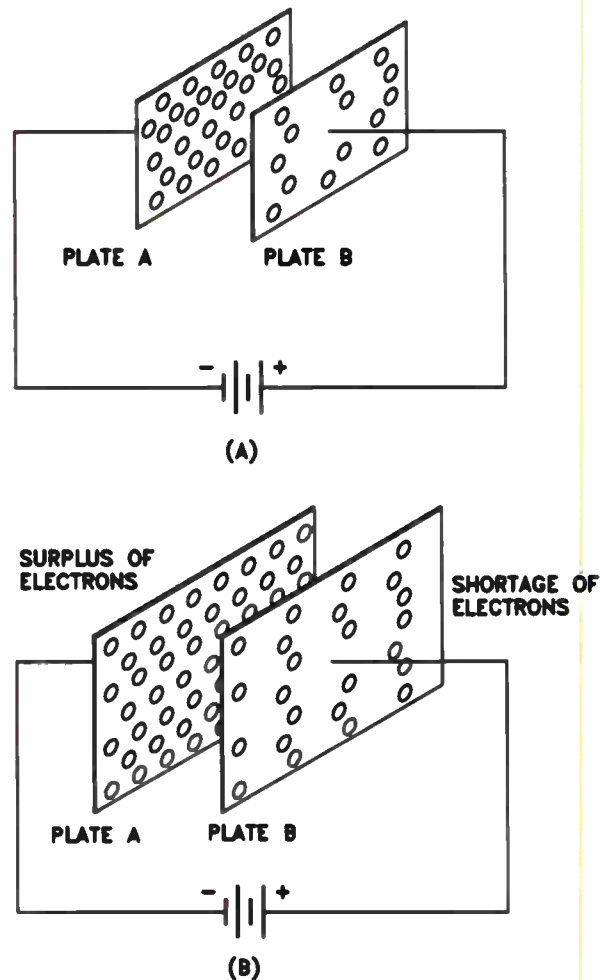

Figure 3. (A) The smaller capacitor. (B) The larger capacitor can store a greater charge.
In Fig. 3, two capacitors are shown. In Fig. 3(B), the capacitor has larger plates than the one in Fig. 3(A), so we can force more electrons onto plate A and pull more electrons off plate B. Thus the capacitor in Fig. 3(B) has a greater capacitance than the capacitor in Fig. 3(A).